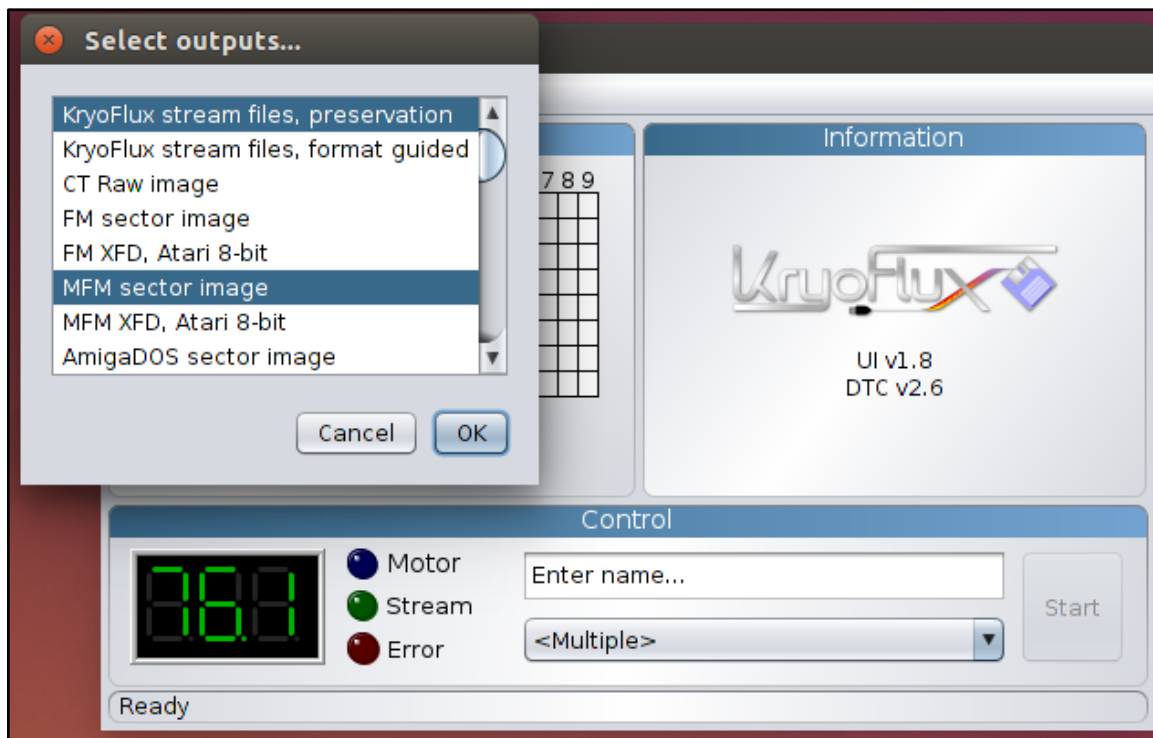

Figure 12: Select the image format\(s\) for the disk image using the dropdown list below the filename field.
5. Select the image format\(s\) for the disk image using the dropdown list below the filename field (see figure 12). Use the table below (figure 11) to select the necessary image formats. In order to choose multiple outputs, hold down the *Control (Ctrl)* key while making your selections. In most cases, selecting an image format to obtain a sector image requires that you know something about the media in hand.